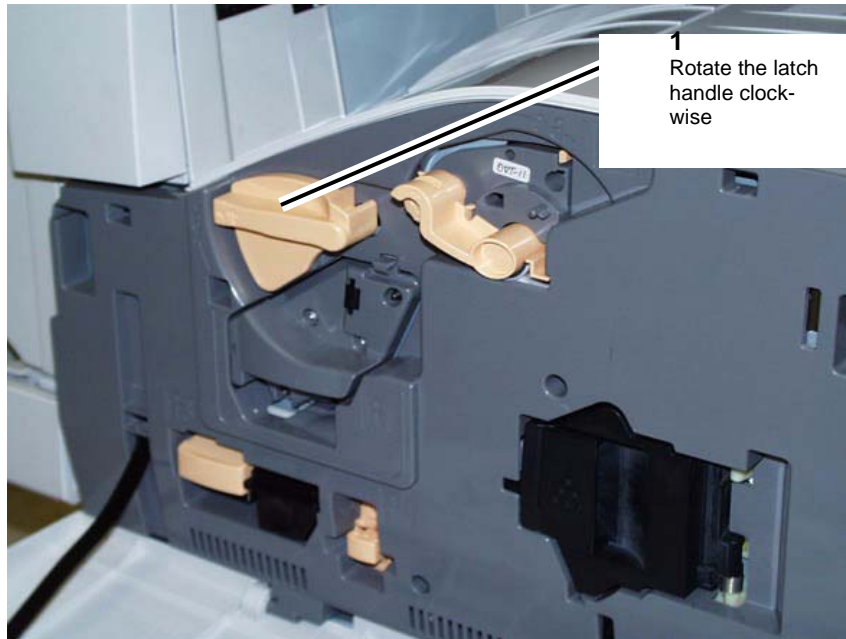

Figure 1 Preparing to remove the Print Drum
2. Preparing to remove the Print Drum. (Figure 1)